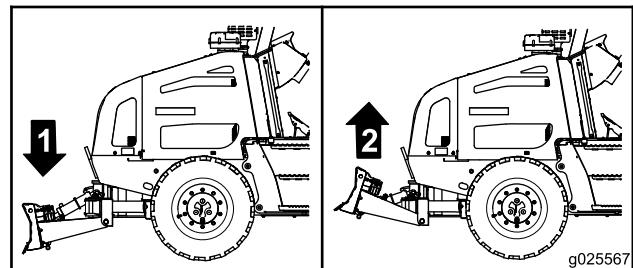

Figure 50
- To lower the backfill blade: Move the joystick forward (Figure 50).
- To raise the backfill blade: Move the joystick rearward (Figure 50).